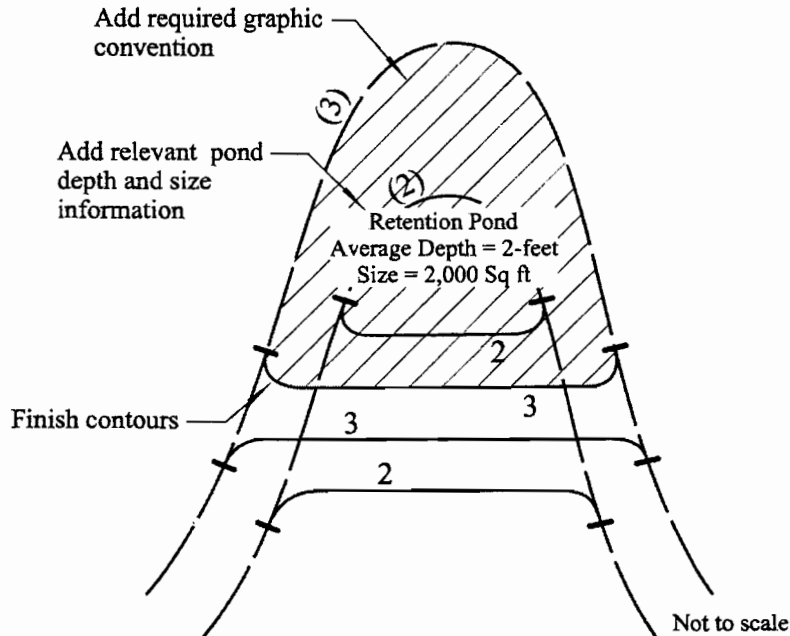

Figure 5-14f, Dam Signature for Detention/Retention Basin
Step 6. Hard line the contours drawn in the previous step. Number the revised contours and delineate the area of the pond with the stipulated graphic convention as shown in Figure 5-14f.